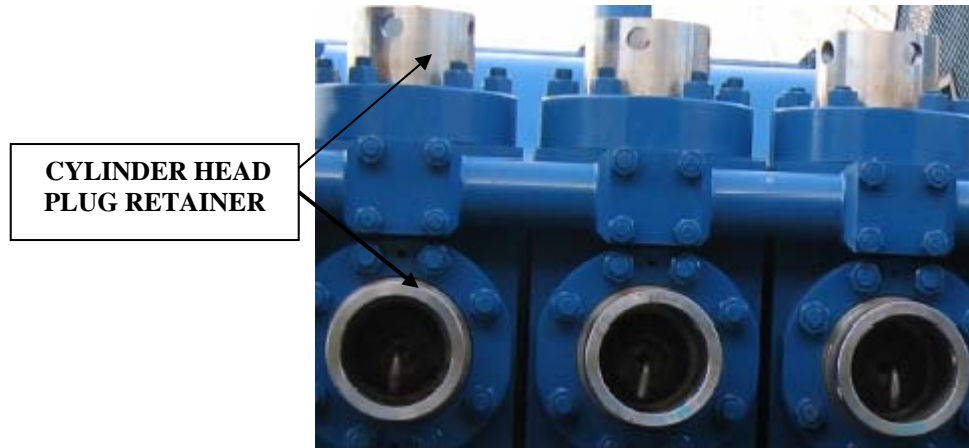

Figure 4-2 Removing cylinder head plug retainer
1. Use a hammer and steel bar to remove threaded cylinder head or discharge valve cover plug retainer. (Fig. 4-2)
1. Remove cylinder head plug retainer (Figures 4-2)